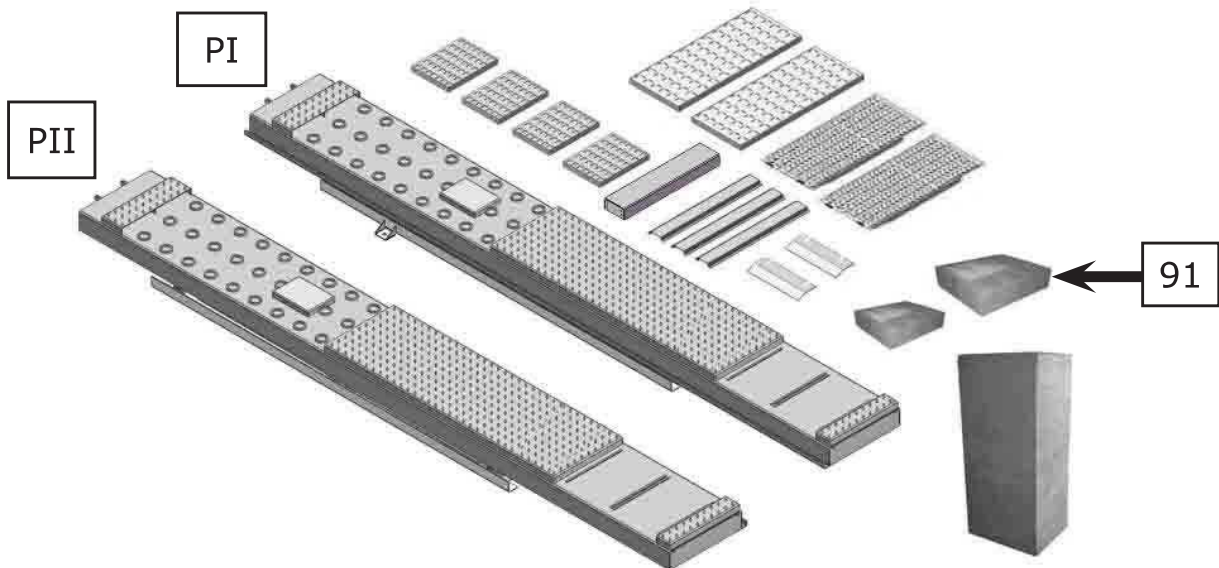

Fig. 8
- 2.1 Parts for on surface installation (See Fig. 8)